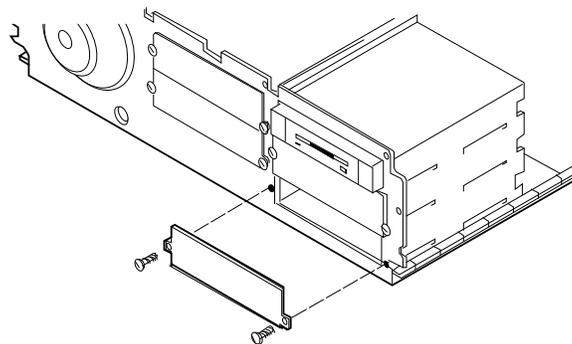

Figure A-29. Removing the EMI/RFI Shield
2. Remove the metal shield from the bottom right bay of the system module chassis by removing the two mounting screws as shown in Figure A-29.